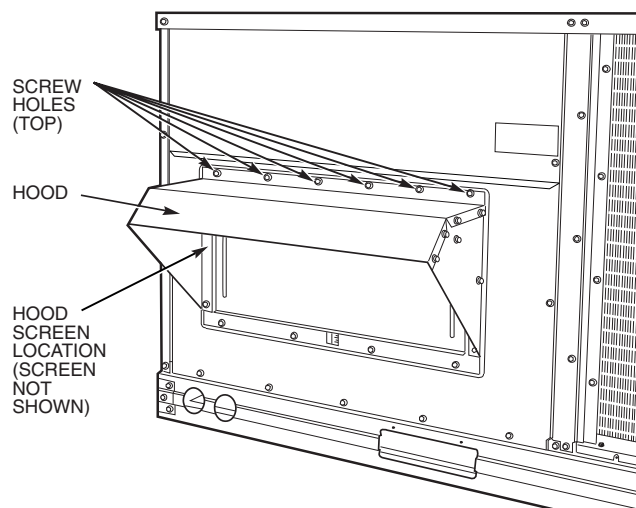

Fig. 19 — Damper with Hood Attached
6. Secure top of hood with the screws removed in Step 3. See Fig. 19.
11. Insert screen and secure to the hood using the screws saved in Step 10. See Fig. 19.